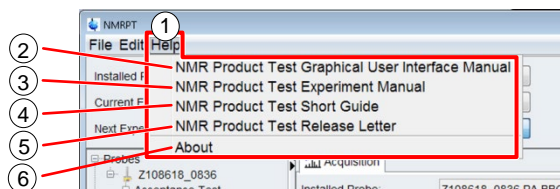
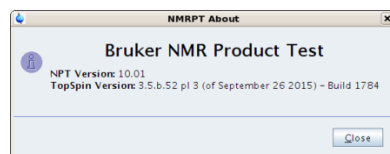

Figure 5-41: Help menu
Figure 5-42: *NMRPT* About information
On the **Help** menu shown in Figure 5-41 (1), click **NMR Product Test Graphical User Interface Manual** (2) to access this document (ZHUB0002). The Graphical User Interface Manual provides detailed information about the *NMRPT* user interface.
On the **Help** menu shown in Figure 5-41 (1), click **NMR Product Test Experiment Manual** (3) to access the Bruker Test Procedures for *Avance* NMR Systems (see chapter 1.5 Referenced Documents, ZUEP0102). The Product Test Experiment Manual provides detailed information about the *NMRPT* set of experiments, including example parameters, available options and sample plots.
On the **Help** menu shown in Figure 5-41 (1), click **NMR Product Test Short Guide** (4) to access the *NMRPT* Short Guide. The Short Guide provides basic information and a basic standard workflow in *NMRPT*.
On the **Help** menu shown in Figure 5-41 (1), click **NMR Product Test Release Letter** (5) to access the *NMRPT* Release Letter. The Release Letter provides changes in the *NMRPT* software since last software release.
On the **Help** menu shown in Figure 5-41 (1), click **About** (6) to access information about the current *NMRPT* version and the *TopSpin* version in which *NMRPT* is integrated (see Figure 5-42).